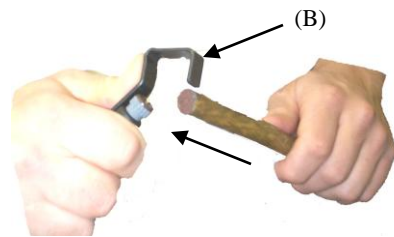

Fig.2
**Step 2.** (Fig. 2) With thumb on the back of upper jaw frame (B), push upper jaw outward, insert cable at desired position and release upper jaw.